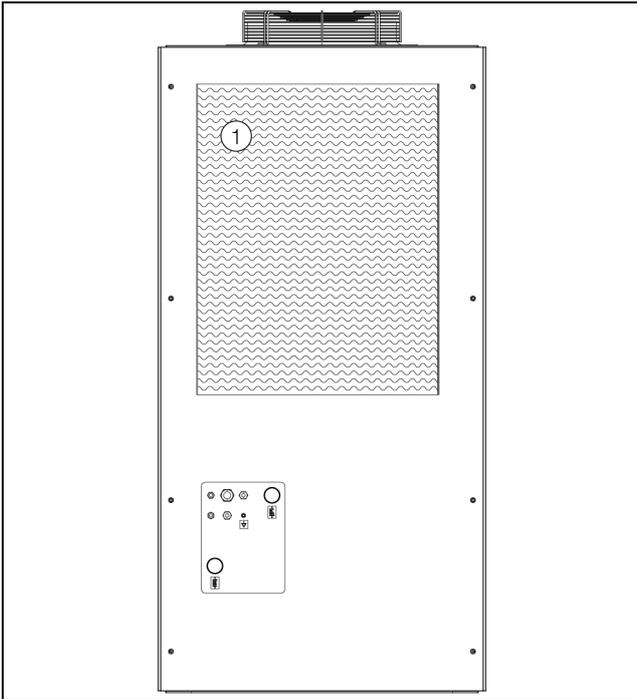

Fig. 46: Condenser membranes
- The condenser membranes are located on the rear of the chiller (fig. 46, item 1). To expose them, first remove the protective grille as described in section 5.8 "Installing the filter mats (accessories)" and/or remove the installed filter mat (accessories).